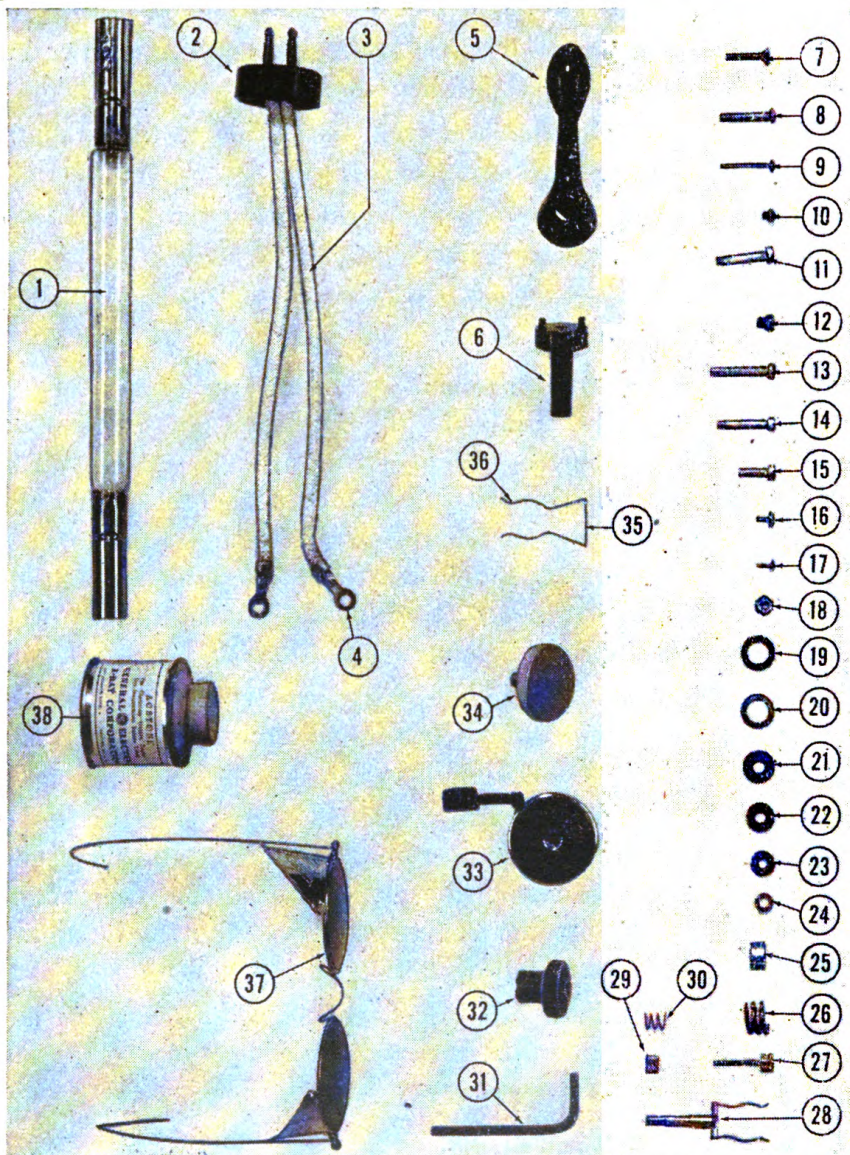
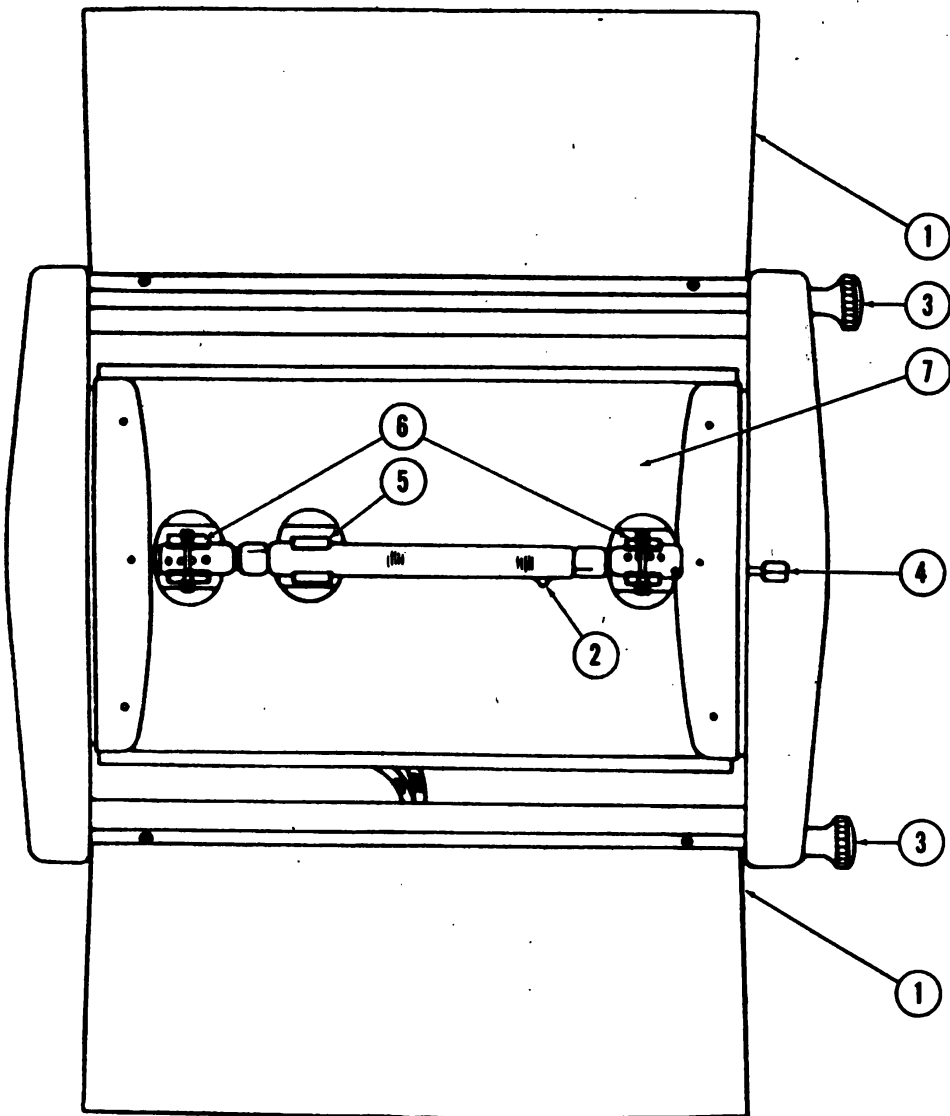

Figure 6. Parts for lamp, therapeutic, mercury arc, air-cooled, mobile, complete, 110-volt, 60-cycle, General Electric model F.
Figure 7. Burner housing, General Electric model—bottom view.
(3) Place the bottom of the upright assembly in the socket of the cast iron base and tighten the Allen head setscrews with the Allen set-screw wrench, SR00333 (fig. 6), provided.
(a) Place the burner, 7R03902 (fig. 7), in position by carefully push-
ing it into the burner end clips, 7R03974 (fig. 7), and the quartz tube burner clip, 7R03976 (fig. 7). The seal-off tip of the burner (fig. 7 (2)) is placed at the end away from the quartz tube burner clip. (Note that the quartz tube burner clip does not make contact with any metallic part.)
(7) Set the steel tape measure, 7R03988 (fig. 6), in operating position by pulling out the steel tape and placing it in the slot of the burner housing directly below the tape reel (fig. 7 (4)).